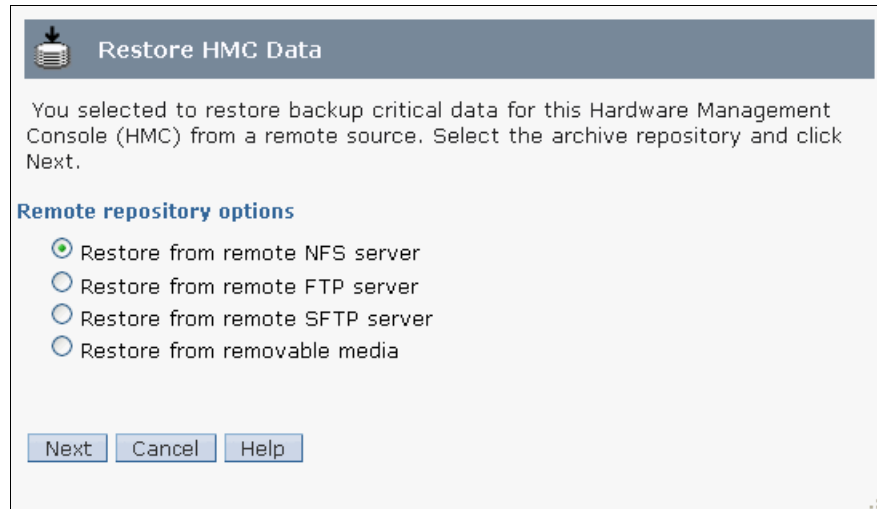

Figure 6-50 Restore HMC Data menu from HMC management
3. Follow the directions to restore the HMC Data. The data restores automatically from the remote server when the system restarts. See Figure 6-50.